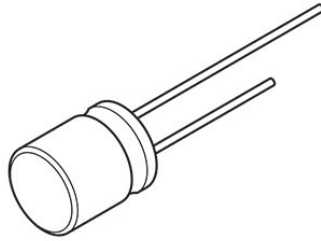

Fig. 1
- (b) (i) State the type of capacitor shown in Fig. 1.